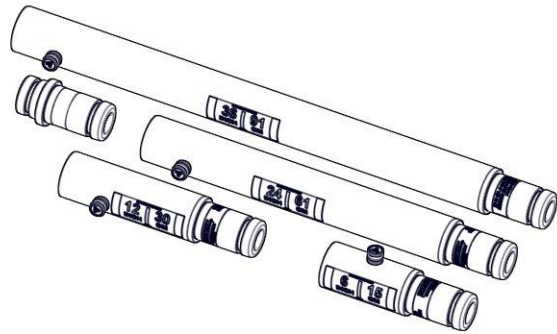

Figure 1-37 Strut Extension 6, 12, 24 and 36. Extension Converter 3" Strut Part Numbers: 22-796017, 22-796012, 22-796024, 22-796036 and 22-796035
- i. **Strut Extension 6, 12, 24 and 36. Extension Converter 3" Strut.** When combined with base plates and/or end plates, strut extensions function independently as rigid support devices. They also can be integrated with either LockStroke or AcmeThread Struts to add length. Struts are not designed to accept more than two extensions with a total combined length of 36" (91.4 cm). Refer to Table 1-1 and Figure 1-37.